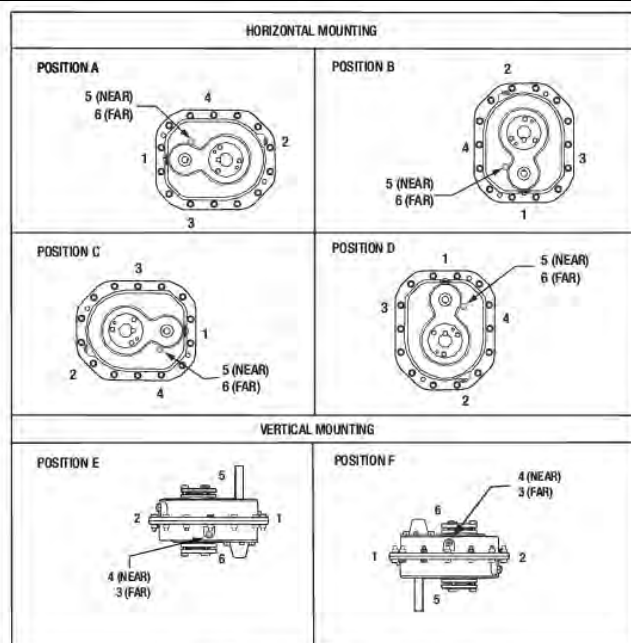

Figure 1 - Mounting Positions
2. Determine the running positions of the reducer (see Figure 1). Note that the reducer is supplied with six plugs—four around the sides for horizontal installations and one on each face for vertical installations. These plugs must be arranged relative to the running positions as follows:
Vertical Installations—Install the filter/ventilation plug in the hole provided in the upper face of the reducer housing as installed. If space is restricted on the upper face, install the vent in the highest hole on the side of the reducer per Figure 1. Install a plug in the hole in the bottom face of the reducer. Do not use this hole for the magnetic drain plug. Of the remaining holes on the sides of the reducer, use the plug in the upper housing half for the minimum oil level plug.
* Below 15 RPM output speed, oil level must be adjusted to reach the highest oil level plug. If reducer position is to vary from those shown in Figure 1, either more or less oil may be required. Consult Product Support in Simpsonville, SC.
The running position of the reducer in a horizontal application is not limited to the four positions shown in Figure 1. However, if running position is over 20° in position B and D or over 5° in position A and C—either way from sketches—the oil level plug cannot be used safely to check the oil level unless during the checking, the torque arm is disconnected and the reducer is swung to within 5° for position A and C or 20° for position B and D of the positions shown in Figure 1. Because of the many possible positions of the reducer, it may be necessary or desirable to make special adaptations using the lubrication filling holes furnished along with other standard pipe fittings, stand pipes and oil level gauges as required.